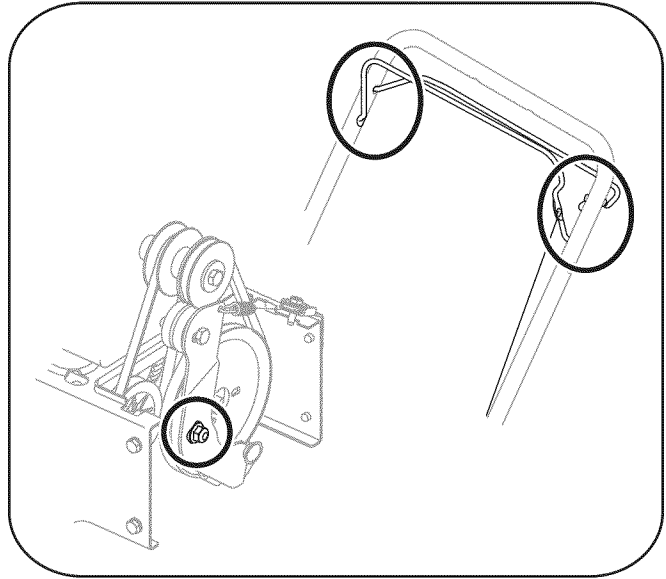

Figure 6-2
1. Lubricate pivot points on the auger control and drive control with a light engine oil once a season, see Fig. 6-2.
2. Lubricate the auger idler bracket with a light engine oil once a season. See Fig. 6-2.